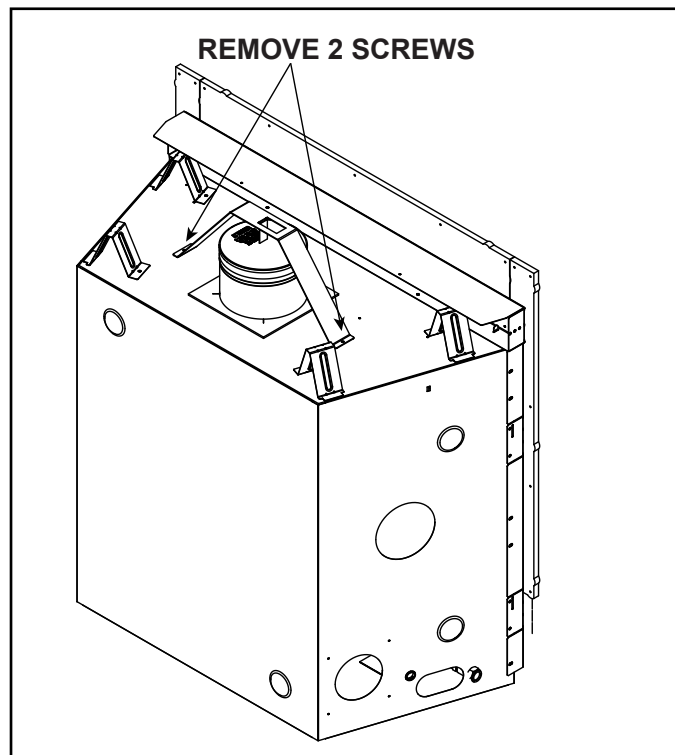

Figure 6.3 RAVE3012-IFT - Shipping Support in Shipping Position
1. Remove two screws and remove shipping support. See Figure 6.3.